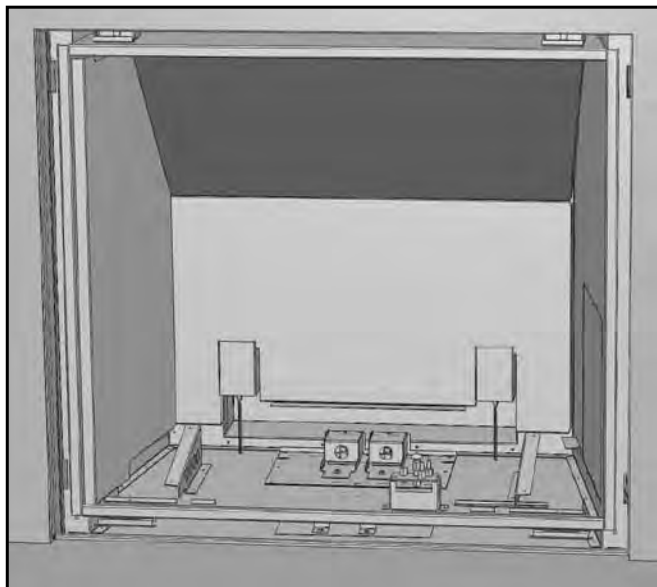

Figure 99: Top Porcelain Panel in Place.
5. Install the Top Panel by placing it on top of the Rear Panel and behind the Left Panel (see Figure 99). Hold it with one hand or have someone else hold it for you while you place the last panel. **WARNING:** If this panel falls from this location it will possibly break or the paint work will become chipped.